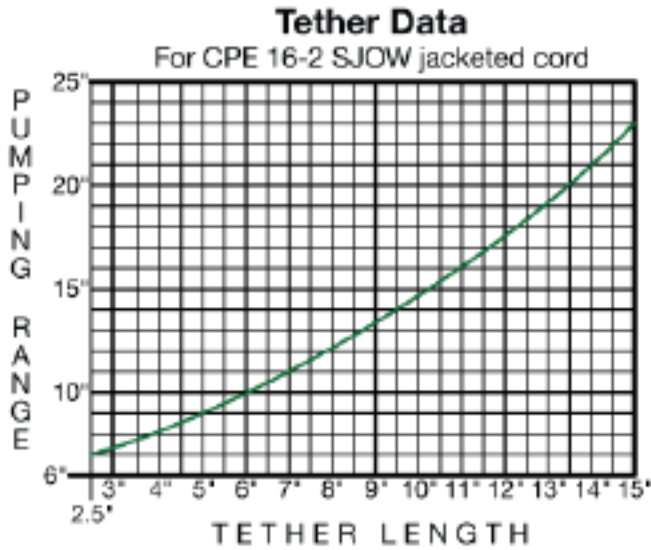

Fig. 3
2. To adjust greater distance between turn-on and turn-off, increase cord length between tether point and float. For less distance between turn-on and turn-off decrease cord length (See Chart Fig. 3)
(See Charts; Fig. 3 & 4)